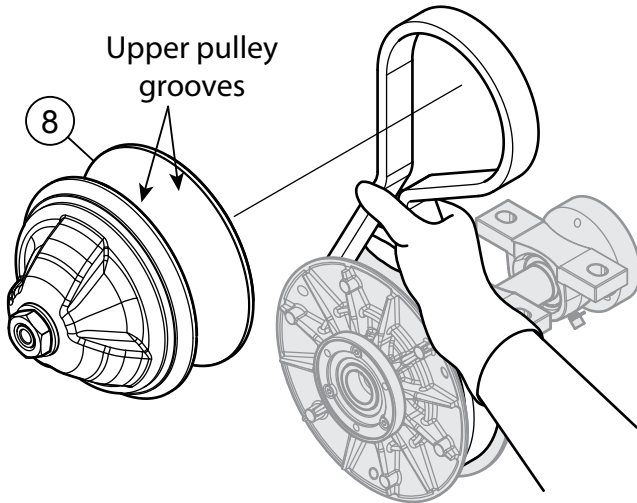

Figure 15. Install Upper Pulley Belt
3. While holding the new clutch, item 6, place free end of CVT belt into upper pulley grooves. See Figure 15.